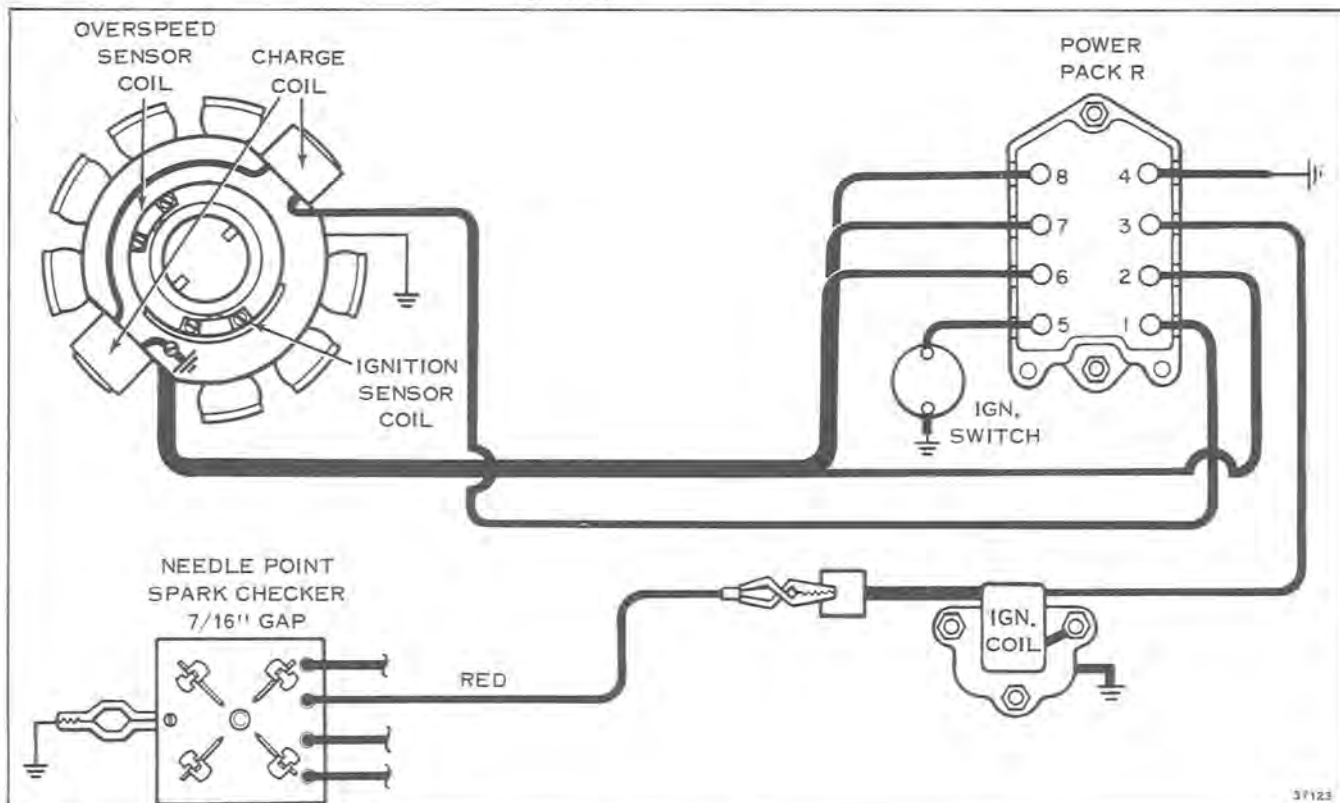

Figure 7-10
6. A.C. - D.C. meter. See Figure 7-10.
- B. Connect spark gap checker with 7/16" gap. See Figure 7-10. Remove spark plug.
- C. Crank engine with starter. If cranking manually, put ignition switch in "RUN" position and use rewind starter. See Figure 7-10.